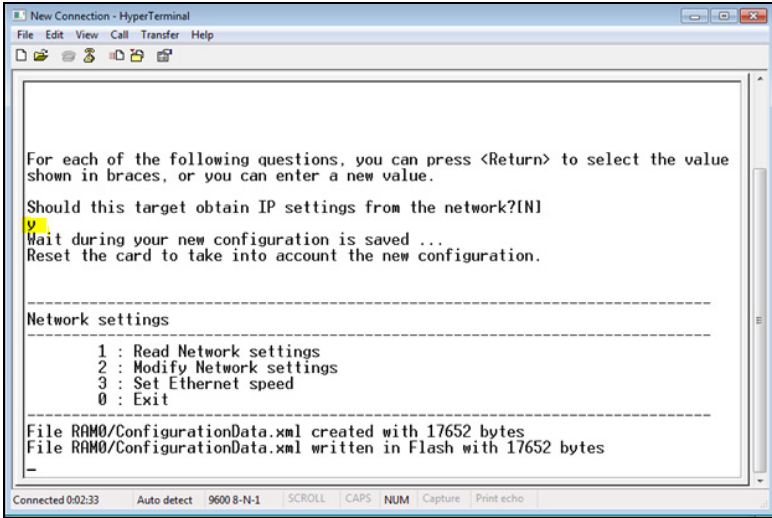

Figure 5. Select Yes for DHCP
2. Type **1** for Read Network Settings. At the cursor prompt, enter **Y** for “yes,” in order to use DHCP to obtain an IP address from the network (see Figure 5).